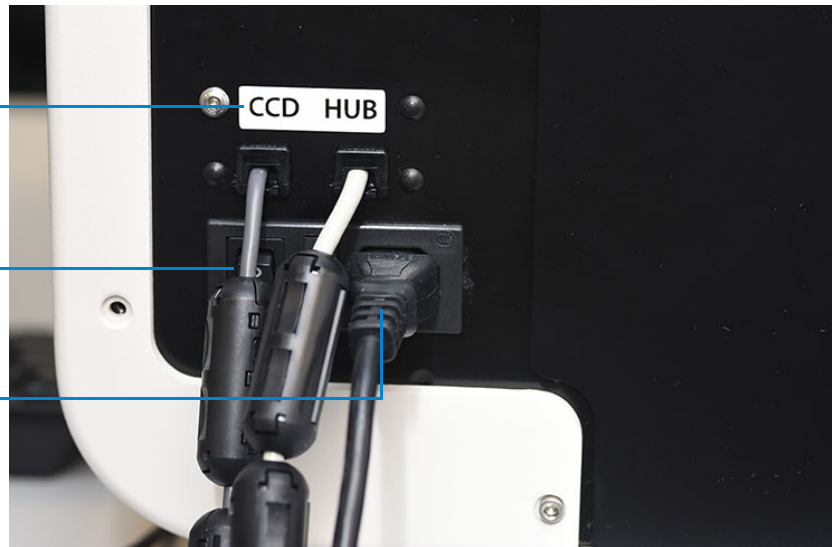

Figure 3 Back of panel of the ZAG DNA Analyzer connections
The back of the ZAG DNA Analyzer contains the communications panel where necessary connections are made to the instrument computer (PC) and electrical outlet for operation (**Figure 2** and **Figure 3**).